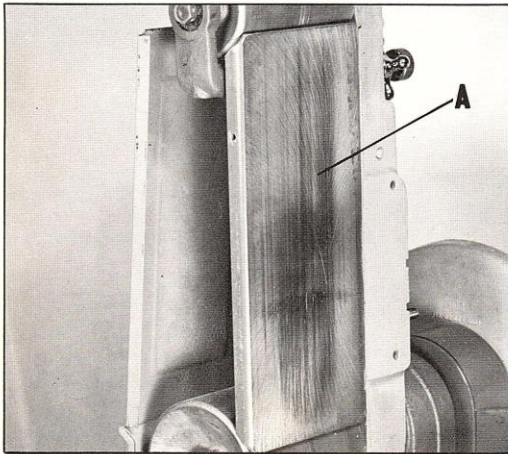

Fig. 6.
The platen (A) Fig. 6, is set at the factory $\frac{1}{32}$ of an inch higher than the crown of the drums. This allows the belt, when properly tensioned, to lay flat on the platen and eliminate stretching and bulging which might occur if the platen is not at the right height.